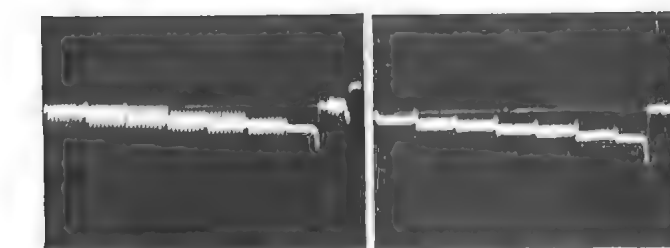

Fig. 22—Luminance Null
4. Adjust R3328 for minimum (null) chroma information. See Figs. 22 & 27.